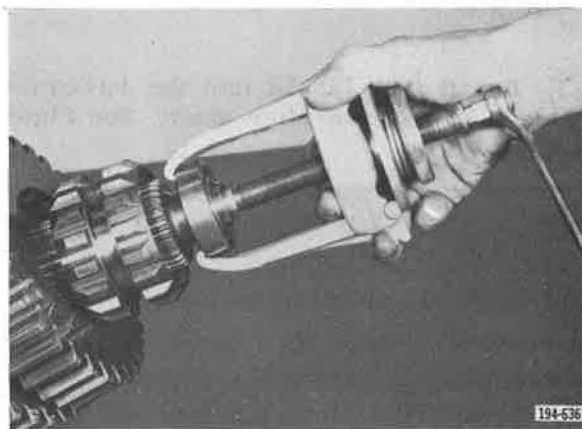

Figure 5-742. Removing Bearing
1. Remove front mainshaft front spigot bearing using tool CG-250. See **Figure 5-742**.